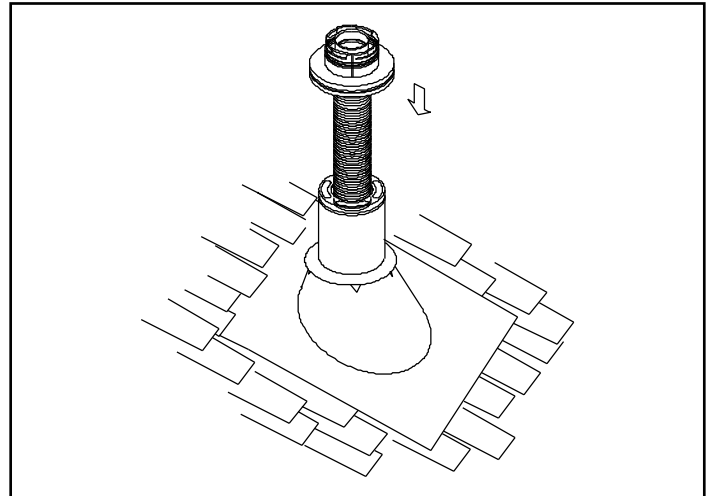

Figure 4.14
4. Pass the flex pipe down through the center of the chimney system, and center the top adaptor on the top of the chimney pipe. Drill four 1/8 in. (3mm) diameter holes through the top adaptor, and into the chimney top, preferably from the side of the top adaptor. Ensure that you are drilling into the metal on the chimney. Twist lock the high wind termination cap onto the top adaptor. See Figure 4.14 and Figure 4.15.